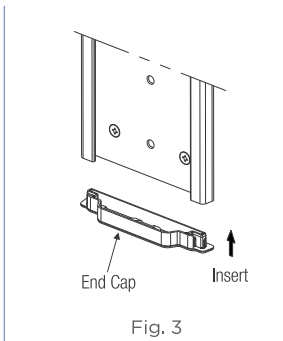

Fig. 3
3. Insert the end cap from bottom of the vertical track as shown in Fig. 3.